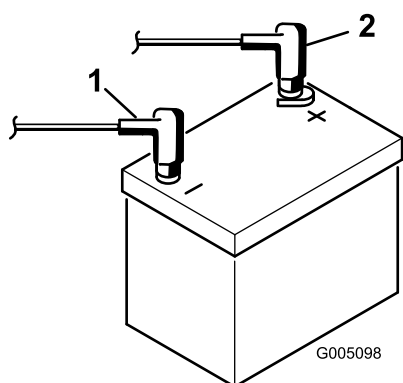

Figure 6
2. Connect the positive battery cable (red) from the starter solenoid to the positive post (+) of the battery (Figure 6). Secure it with a wrench and coat the terminal with petroleum jelly. Make sure the cable